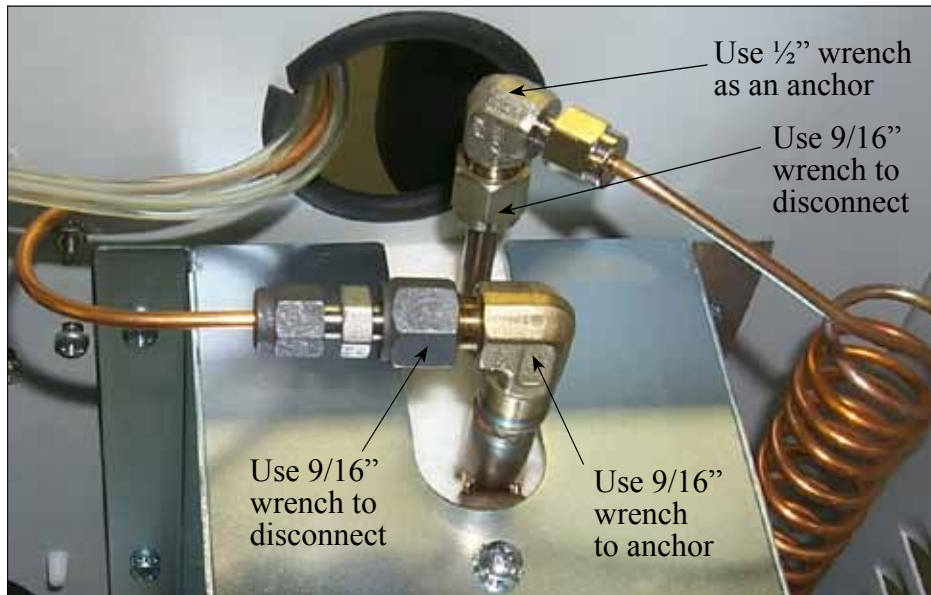

Figure 6
6. Use both 9/16" wrenches, one as an anchor, to disconnect the catalyst tower inlet tubing. Use the 1/2" wrench as an anchor and the 9/16" wrench to loosen the compression fitting's nut (see Figure 6).